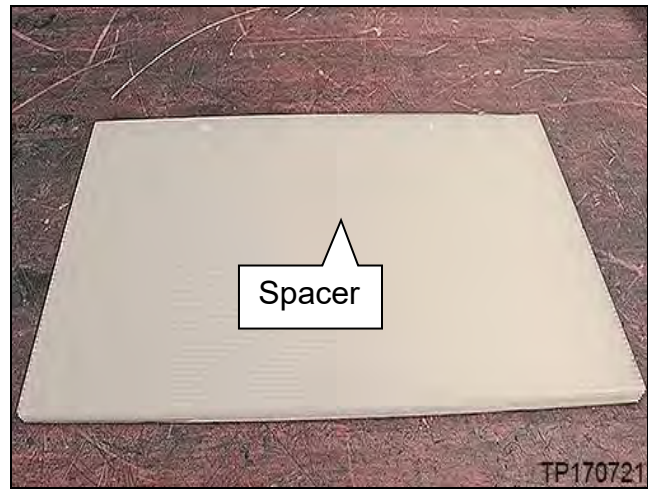

Figure 6N
IMPORTANT: Step 7 is for kits that have a separate spacer (Figure 6N). In later kits this spacer will be part of the lower board and step 7 will not be used.
7. Take the spacer (Figure 6N) out of the shipping box and place on the work bench where the sub-assembly will be installed, and then place the lower board on top of the spacer as shown in Figure 7N.